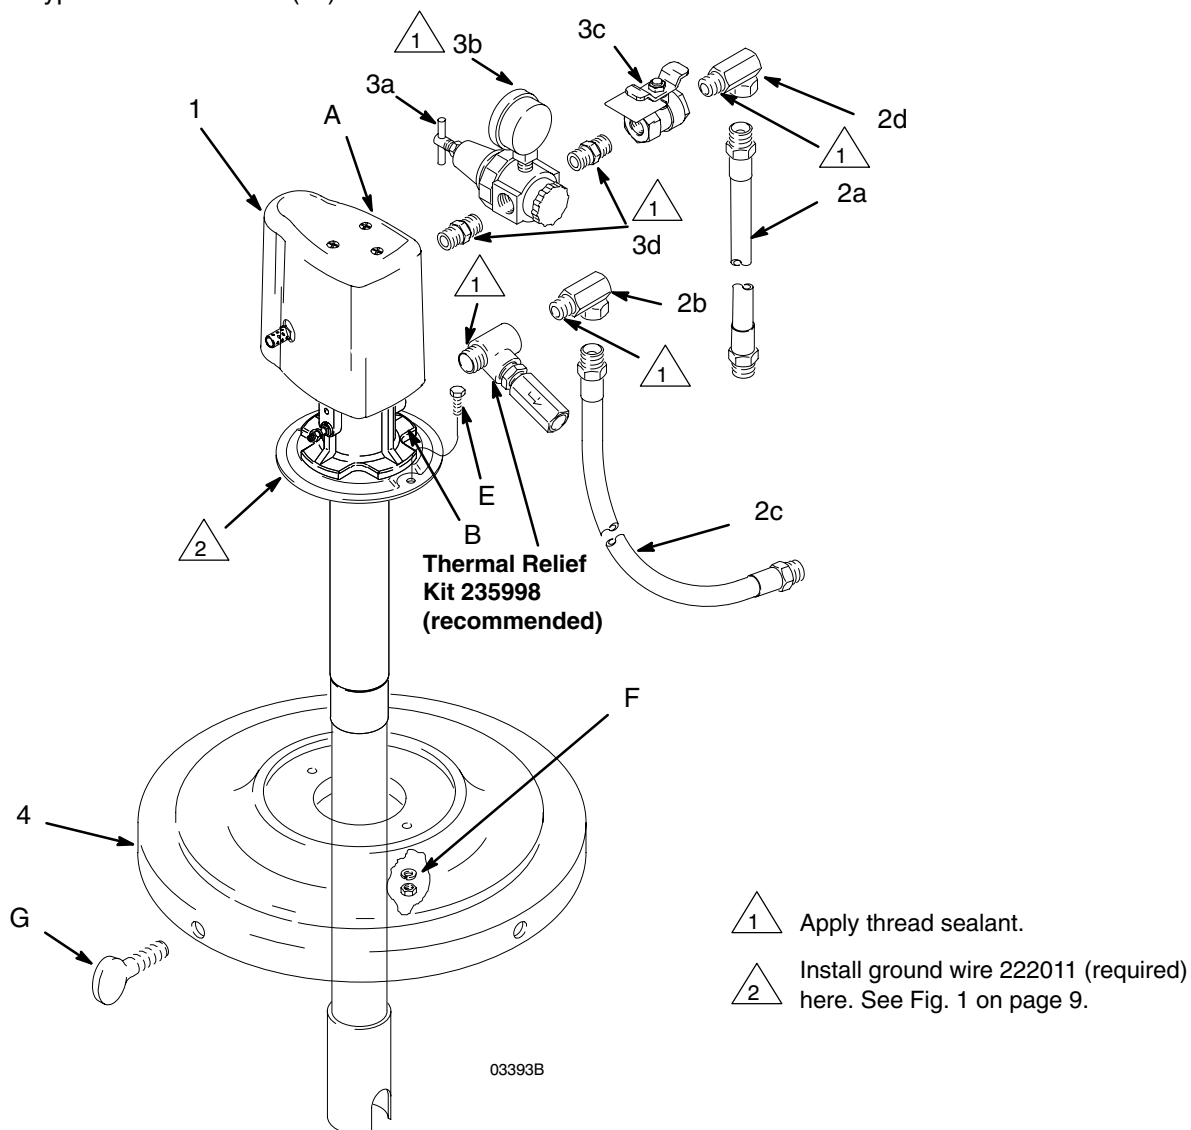

Fig. 3
1. Set the cover (4) on a 16-gallon (60 liter) drum and secure with the thumbscrews (G). See Fig. 3.
2. Install the pump (1) on the cover (4) with the screws (E), washers and nuts (F) supplied.
3. Assemble the air regulator kit (items 3a–3d) to the pump air inlet (A), as shown. Use thread sealant and tighten all parts securely.
5. Apply thread sealant to the male threads of the 1/2 npt swivel union (2d). Screw the union into the pump fluid outlet (B).